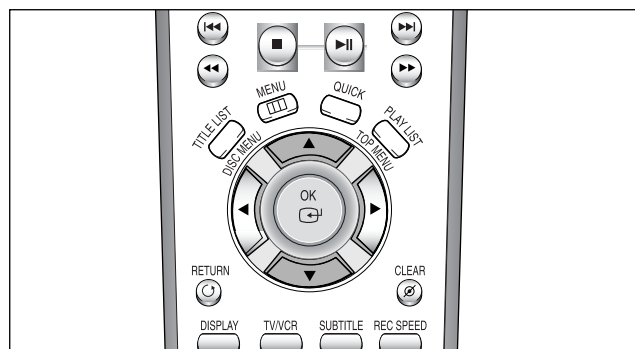

Fig. 3-6 Remote Controller
- 4) Press the **OK** button on the remote control (Fig. 3-6).